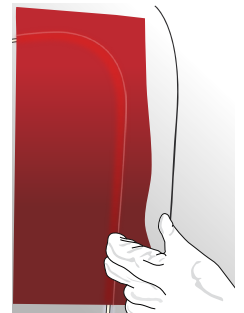

Figure 13
- ▶ Stretch the vinyl over the substrate so that it touches the raised surface. Then apply the peak with your finger. (FIG. 13)